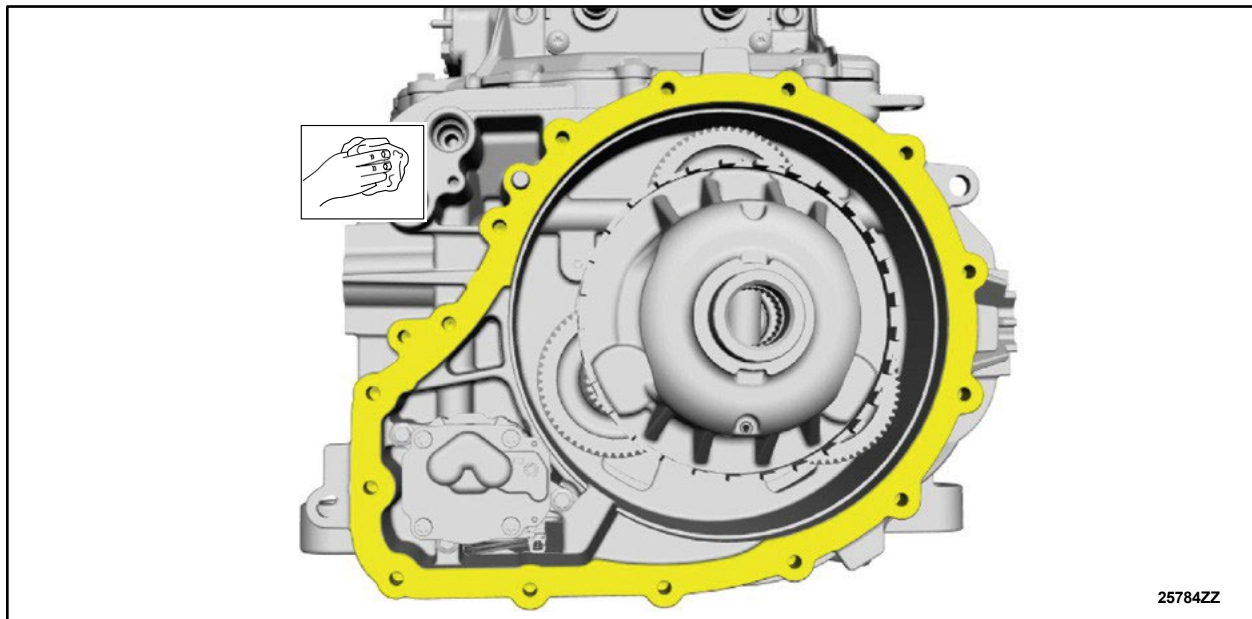

FIGURE 29
33. Clean and prepare the RTV sealing surfaces. Refer to the WSM procedures in Section 303-00 - RTV Sealing Surface Cleaning and Preparation. See Figures 29 and 30.